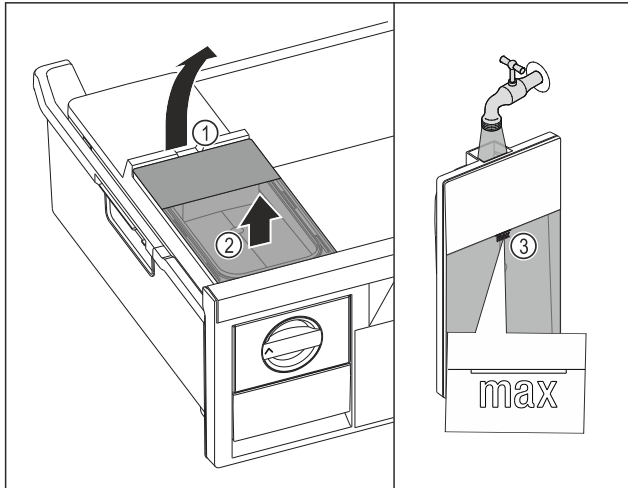

Fig. 62
- ▶ Lift the water tank at the recess Fig. 62 (1).
- ▶ Remove the water tank by lifting it upwards. Fig. 62 (2)
- ▶ Fill the water tank with drinking water up to the mark Fig. 62 (3).